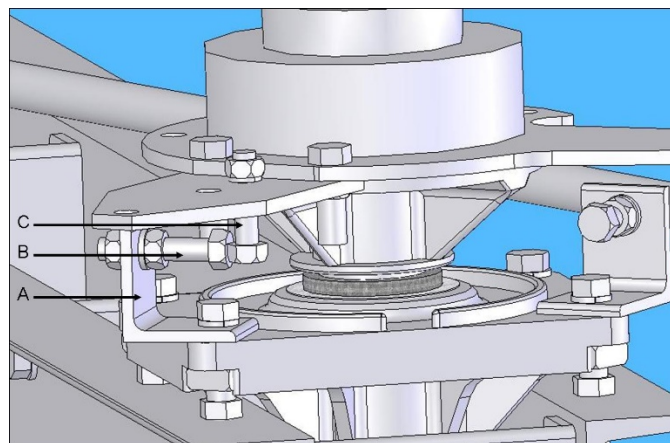

Figure 11: Blade Stops (Heavy Duty Bearing)
2. Back off the Blade Stops on insulator stack, Refer to **Figure 11**.
3. With the male and female blade assemblies in the closed position verify, using a level, that both blades are in the same plane and that their centerlines are aligned. A slight variance is acceptable provided that the male contact is approximately perpendicular in the female contacts. Refer to **Figure 11**.
7. Use only DRIVING phase stop to set up the switch, with the other two stops completely backed off, then adjust the crank arm stop or rest within 1/4" inch of the blade stops (Refer to **Figure 11**). If adjustment is necessary, loosen the nuts on the adjusting bolt and adjust the bolt until the distance between the blade stop and the stop is correct. Torque the nuts to proper value. (See Table 2)